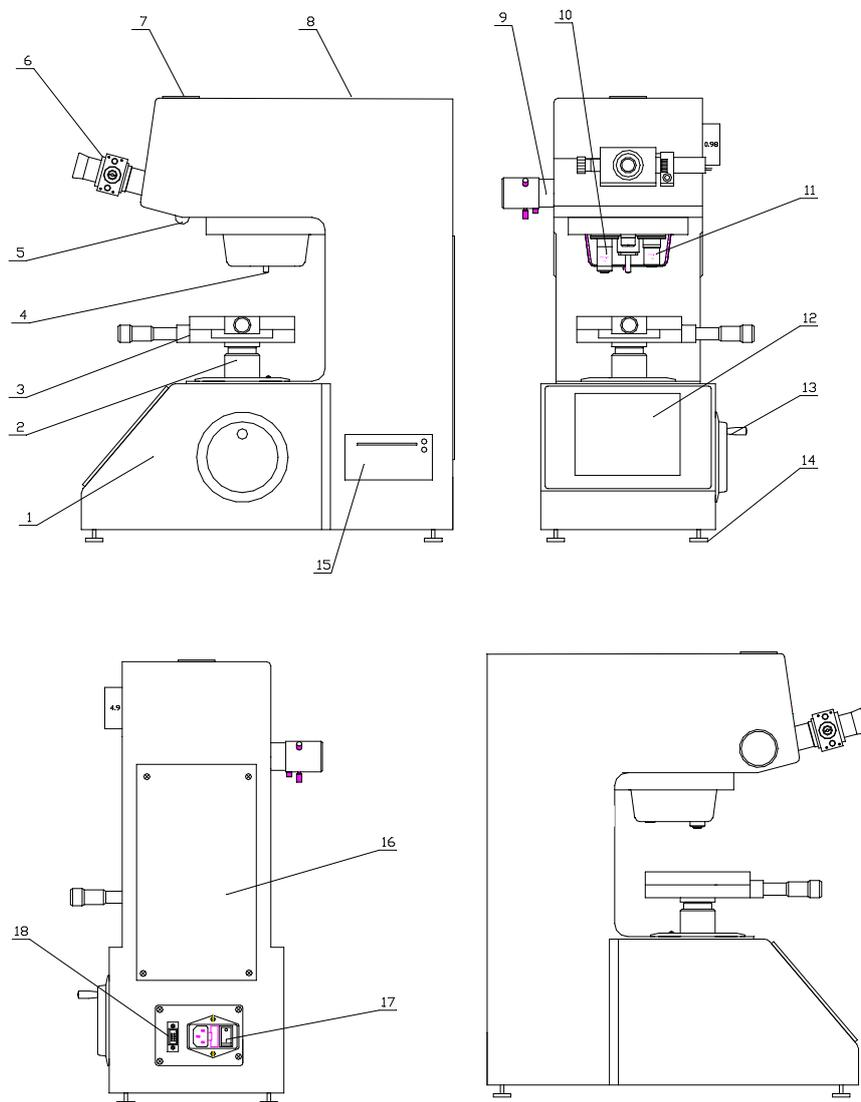

Fig1
- 2) Separate the main body (1) from other accessories (Figure 1);
- 3) Remove the horizontal adjusting screw (19) from the attachment box and rotate it at the bottom of the main body.;